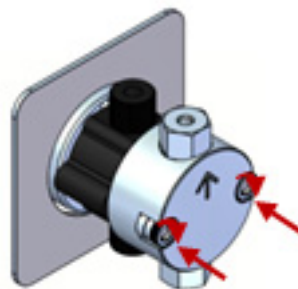

Figure 5-17 Reinstalling the fasteners
16. Reinstall fasteners. As you tighten, alternate side-to-side until snug. Turn 1 flat past snug using a $\frac{3}{16}$ " hex key (Figure 5-17).